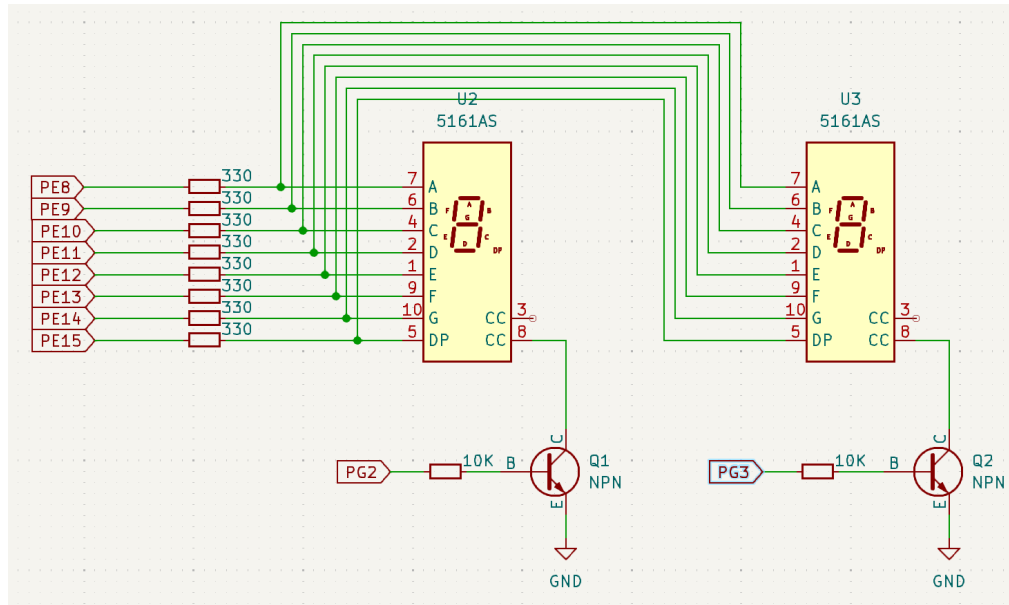

Figure 2: Connecting 2 7-segment LED modules
- Assemble the circuit to connect 2 7-segment LED modules with STM32F4 as shown in Figure 2.